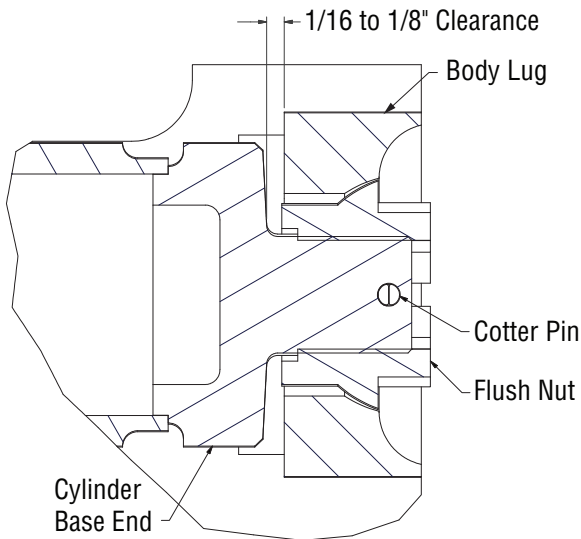

Figure 5-13, Body Lug
1. Apply a thin coat of bearing grease to the spherical portion of the flush nut and concave section of the body lug. Screw on the flush nuts until they stop. Back the flush nut off lining up the cotter pin hole in the rod or base end stud with the slot in the flush nut. Do not tighten the flush nut tight to eliminate all clearance between washer and body lug. Adjust to allow 1/16 to 1/8 of an inch clearance between the base end of the cylinder and the body lug. (Figure 5-13)